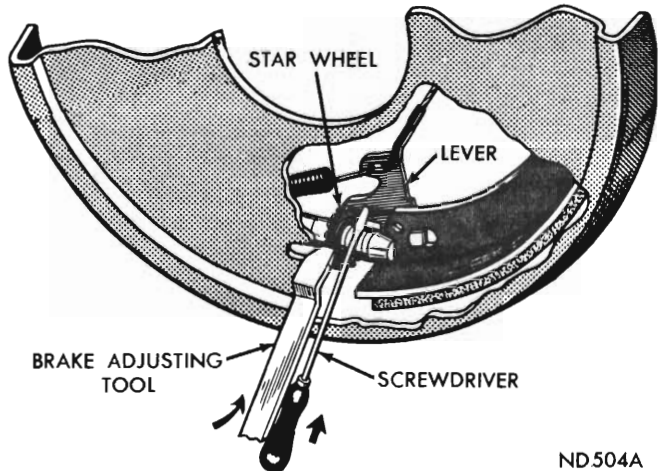

Fig. 6 - Releasing brake adjustment
(1) Raise the vehicle so all wheels are free to turn (particularly both rear, where sure-grip differential is installed).
(2) Remove the rear adjusting hole cover from the backing plate on all of the brake supports.
(3) Be sure the parking brake lever is fully released, then back off the parking brake cable adjustment so there is slack in the cable.
(4) Insert the adjusting tool E64 into the star wheel of the adjusting screw. Move the handle of the tool downwards until a slight drag is felt when the road wheel is rotated.
(5) Insert a thin screw driver into the brake adjusting hole and push the adjusting lever out of engagement with the star wheel, while holding the adjusting lever out of engagement, back off the star wheel 10 to 12 notches to ensure a free wheel with no brake shoe drag (see Fig. 6).
(6) Repeat the above adjustment at each wheel. The adjustment must be equal at all wheels. Install the adjusting hole covers in the brake supports.
With the vehicle elevated on a hoist, jack or suitable stands remove the front wheels and drums. (Back-off adjustments, where required, refer Fig. 6).